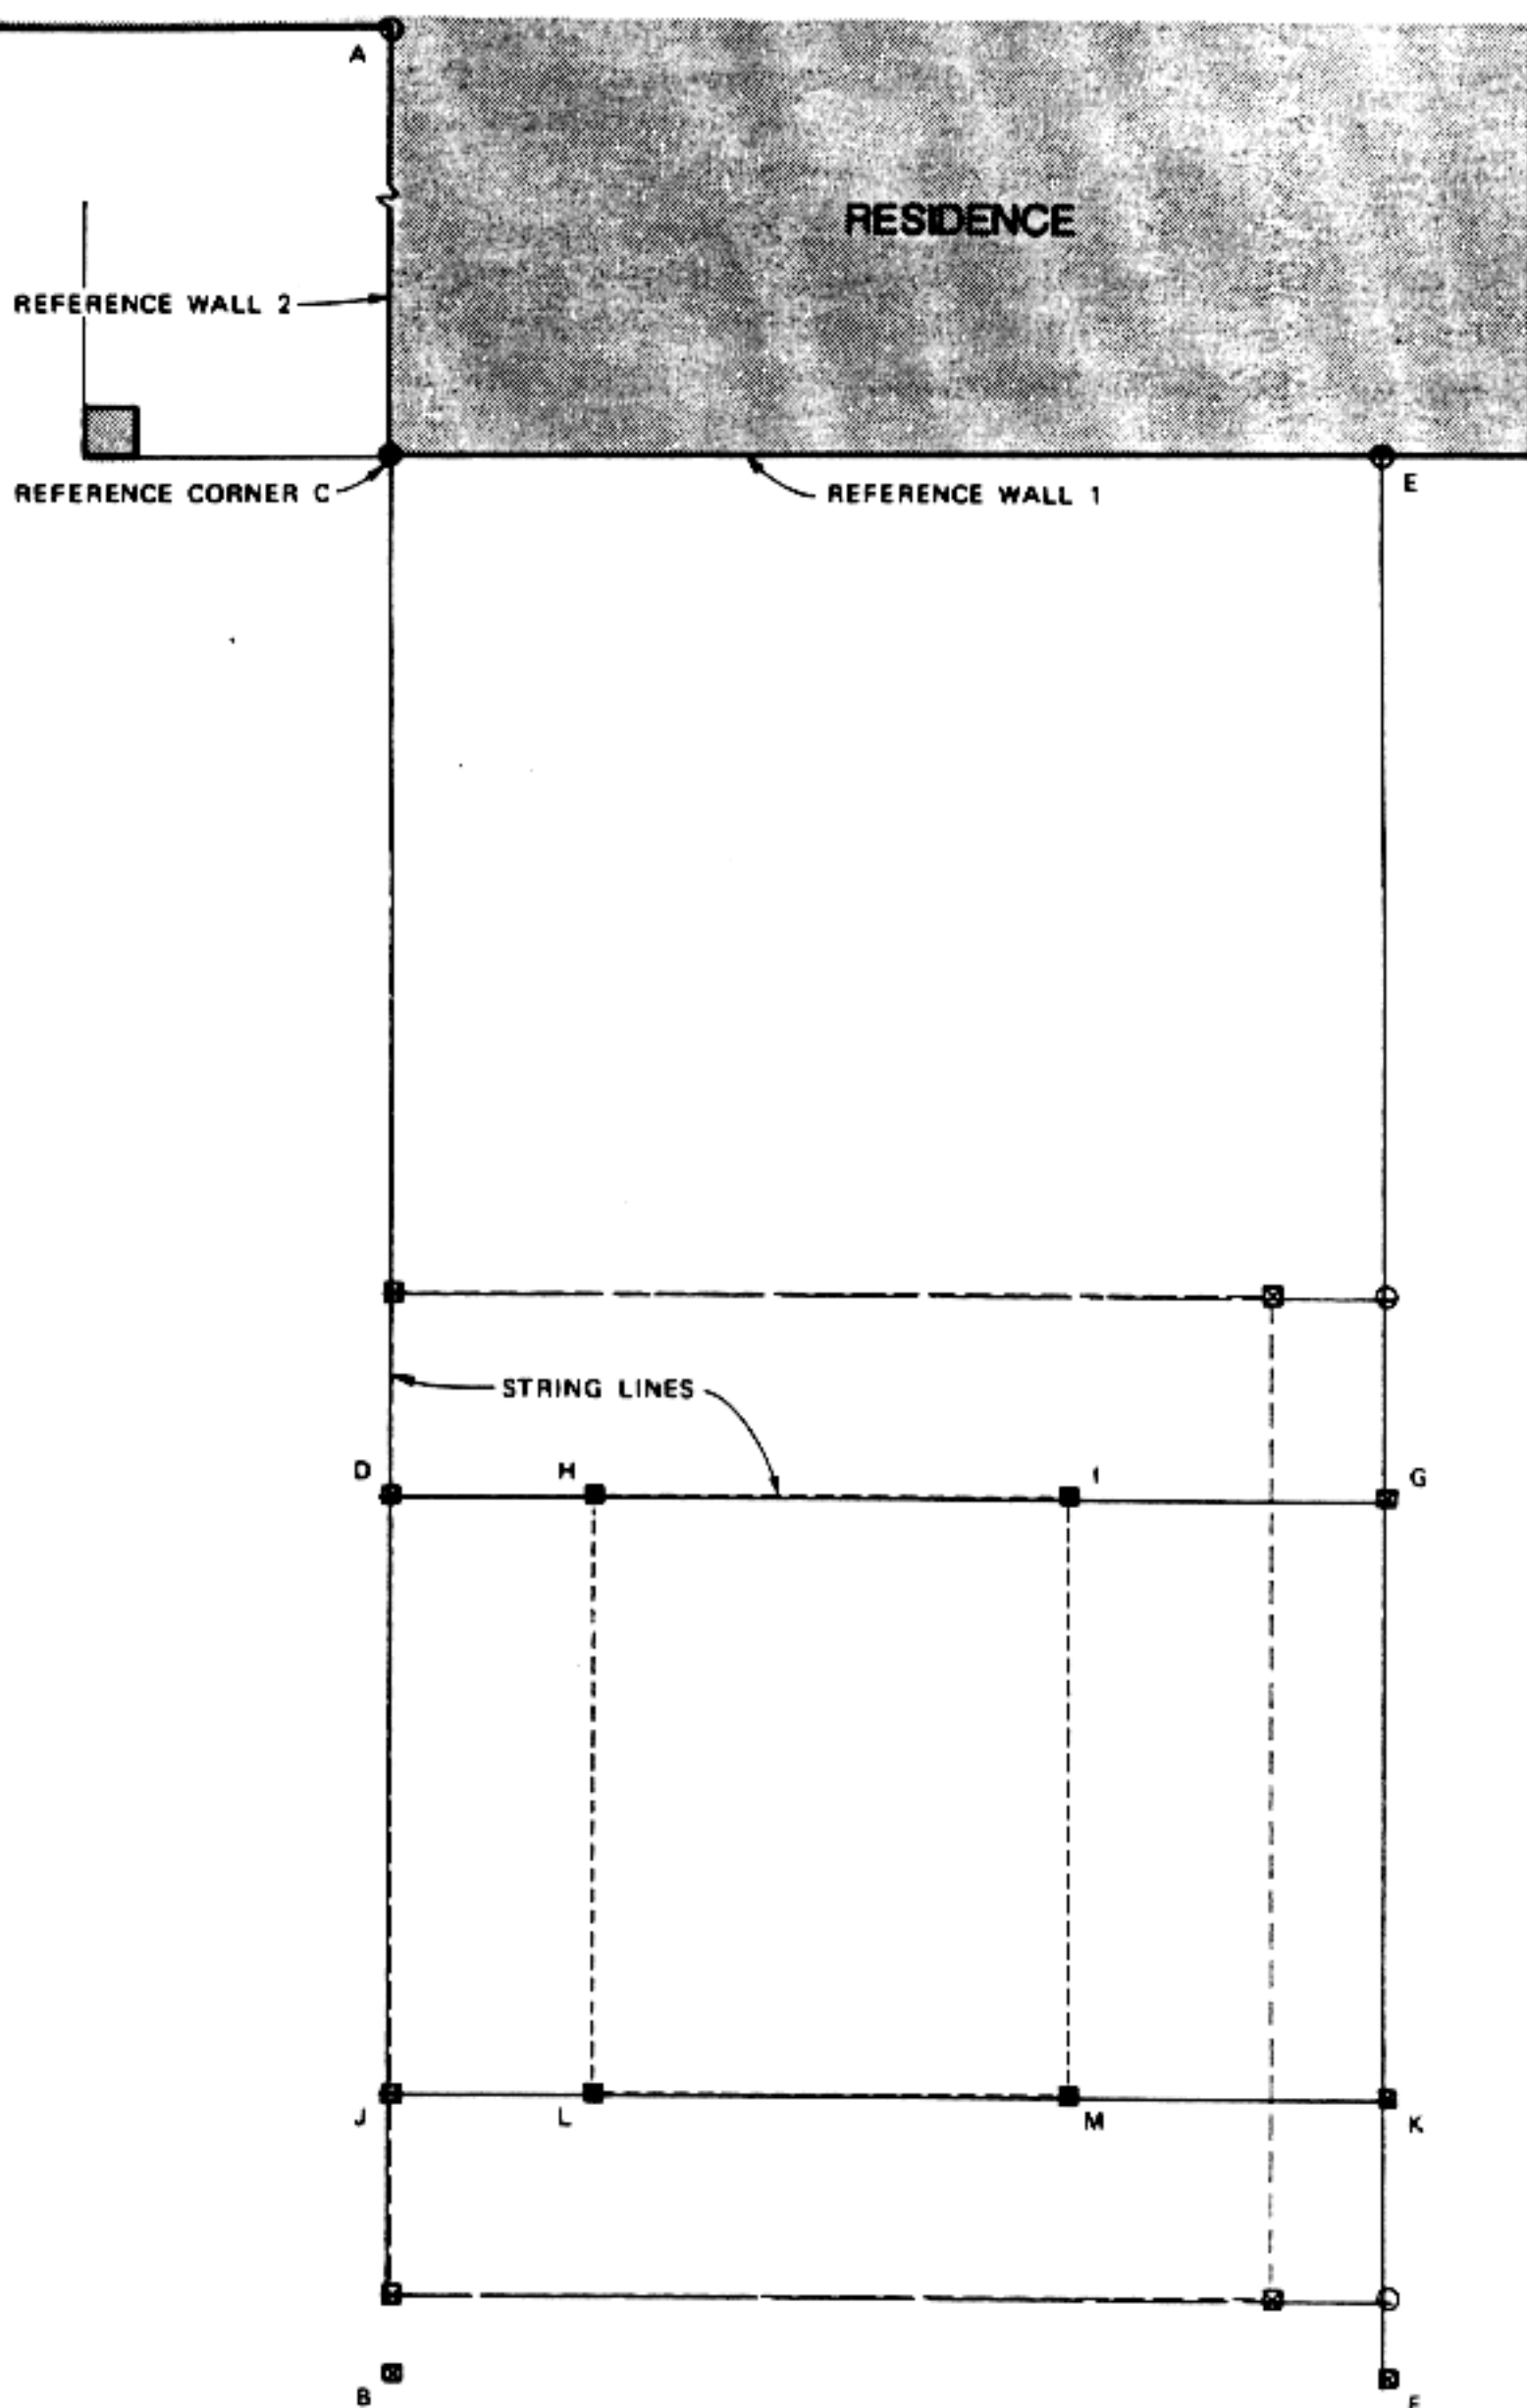

Figure 17. Stake layout for locating corners of the shelter
**Step 1:** Extend a string line several inches above the ground level from A to B (see figure 17). B is any selection distance from reference wall 1, preferably slightly greater than the distance to the outermost edge of the shelter. The string line should be in line with reference wall 2, and when held taut should just touch reference corner C without bending the string line. Line A B then will be perpendicular to reference wall 1 and also will be a projection of reference wall 2. Set temporary stake B and drive a nail into its top precisely in line with the string line.